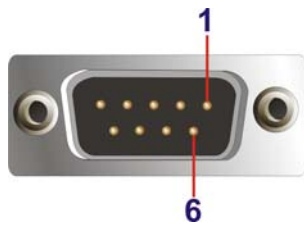

Figure 3-36: RS-232/422/485 Serial Port
- CN Pinouts:** See **Table 3-8** and **Figure 3-36**